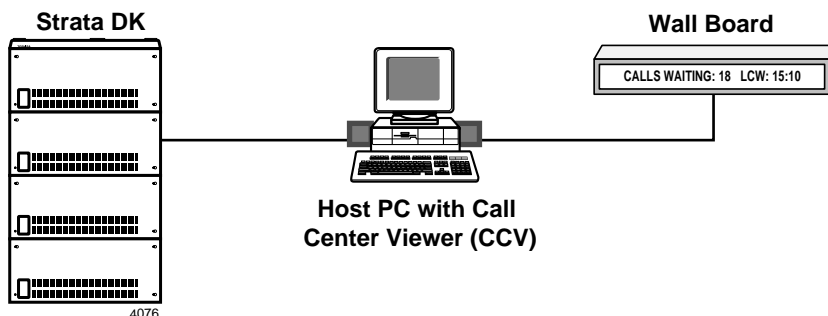

Figure 11-17 Connecting Strata DK Directly to a CCV PC with Optional Wall Board
- Connect the Strata DK280 or DK424 MIS port (RSIU/RSSIS, RSSU, PIOU, or PIOUS PCB) to the COM port of the host computer with an RS-232 cable. See Figure 11-17.